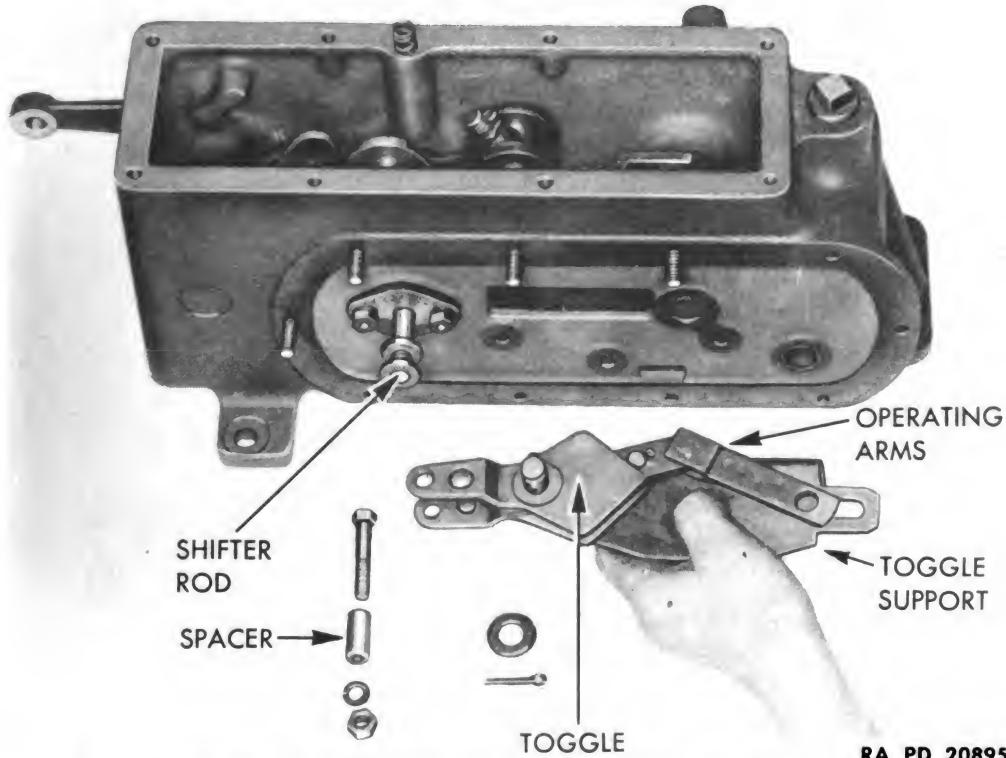

Figure 166 — Removing Toggle Support Assembly
(10) REMOVE TOGGLE SUPPORT ASSEMBLY (fig. 166). Remove three cap screws and lock washers attaching support to housing. Remove cap screws, nut, lock washer, and spacer clamping toggle to shifter rod. Remove toggle support from housing.
(11) REMOVE TOGGLE AND OPERATING ARMS (fig. 166). Remove cotter pin and plain washer attaching toggle and operating arms to toggle support pin.
(8) **INSTALL TOGGLE** (fig. 166). Place slotted end of toggle operating arms inside toggle, and place on pivot pin on toggle support. Attach with washer and cotter pin. Attach toggle support to housing with three cap screws and lock washers. Attach toggle to shifter rod by installing spacer, cap screw, nut, and lock washer.